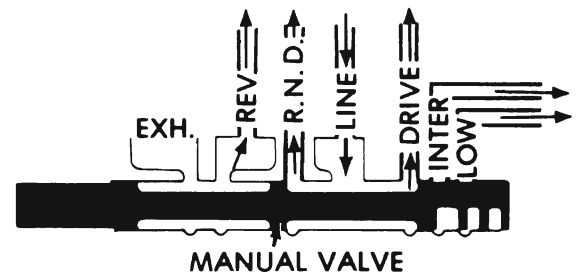

Figure 75-18 - Manual Valve
**E. Manual Valve (See Figure 75-18)**